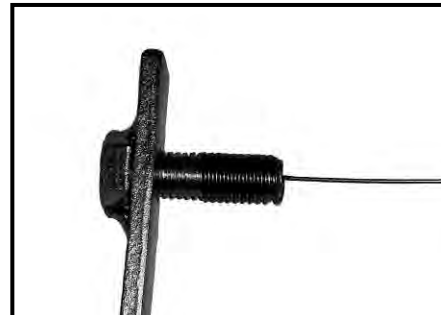

Fig 1C
4. Next, partially thread a Plastic Retainer onto the threaded end of a 12mm Bolt /10mm Nut Plate, (**Figure 1C**). Insert the Bolt and Nut Plate with Plastic Retainer into the factory oval hole, (**Figure 1B**). **FOR MID-YEAR 2015 & UP MODELS WITH PRE-INSTALLED 8mm THREADED INSERTS, SKIP THIS STEP AND PROCEED TO STEP 5.**
7. Move to the passenger side rear of the vehicle and remove the tape covering the factory oval hole in the inner body panel as described in **Step 2**. Thread a Plastic Retainer onto the threaded end of a Bolt and Nut Plate, (**Figures 1C & 4**). Insert the Bolt and Nut Plate into the factory hole, (see **Steps 3 & 4**).